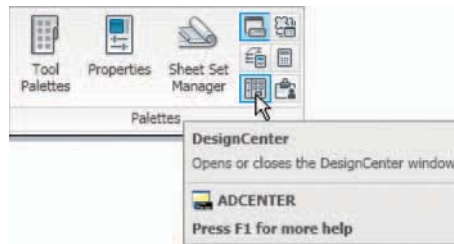

Fig. 14.2 Calling the **DesignCenter** from the **View/Palettes** panel
4. Open the **DesignCenter** from the **View/Palettes** panel (Fig. 14.2) or by pressing the **Ctrl** and **2** keys of the keyboard.